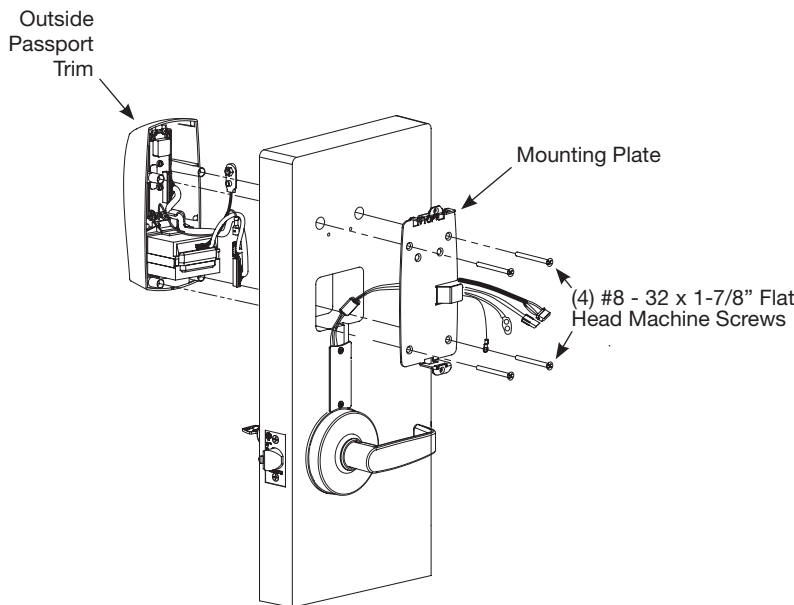

Fig. 12A
Note: Feed controller and keypad cables through side opening (Fig. 12A).
Cable from lock body feeds through bottom (Fig. 12A and 12B).
3. Attach grounding lug to bottom right screw and note upright positioning of lug (Fig. 12A).